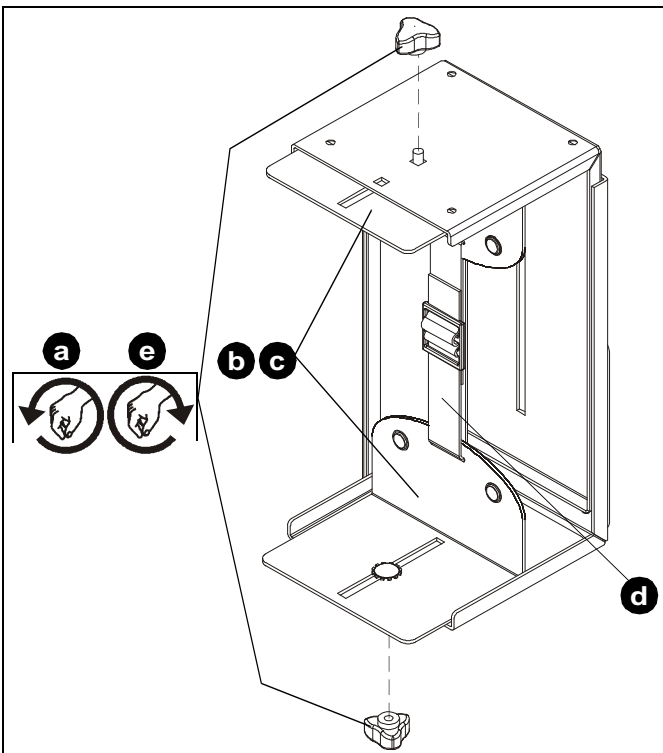

Figure 6
- Remove top and bottom knobs. (See Figure 6)
- Remove and reinstall strap so that the buckle is facing out to allow easy adjustment. (See Figure 6)
- Reinstall top and bottom knobs. (See Figure 6)